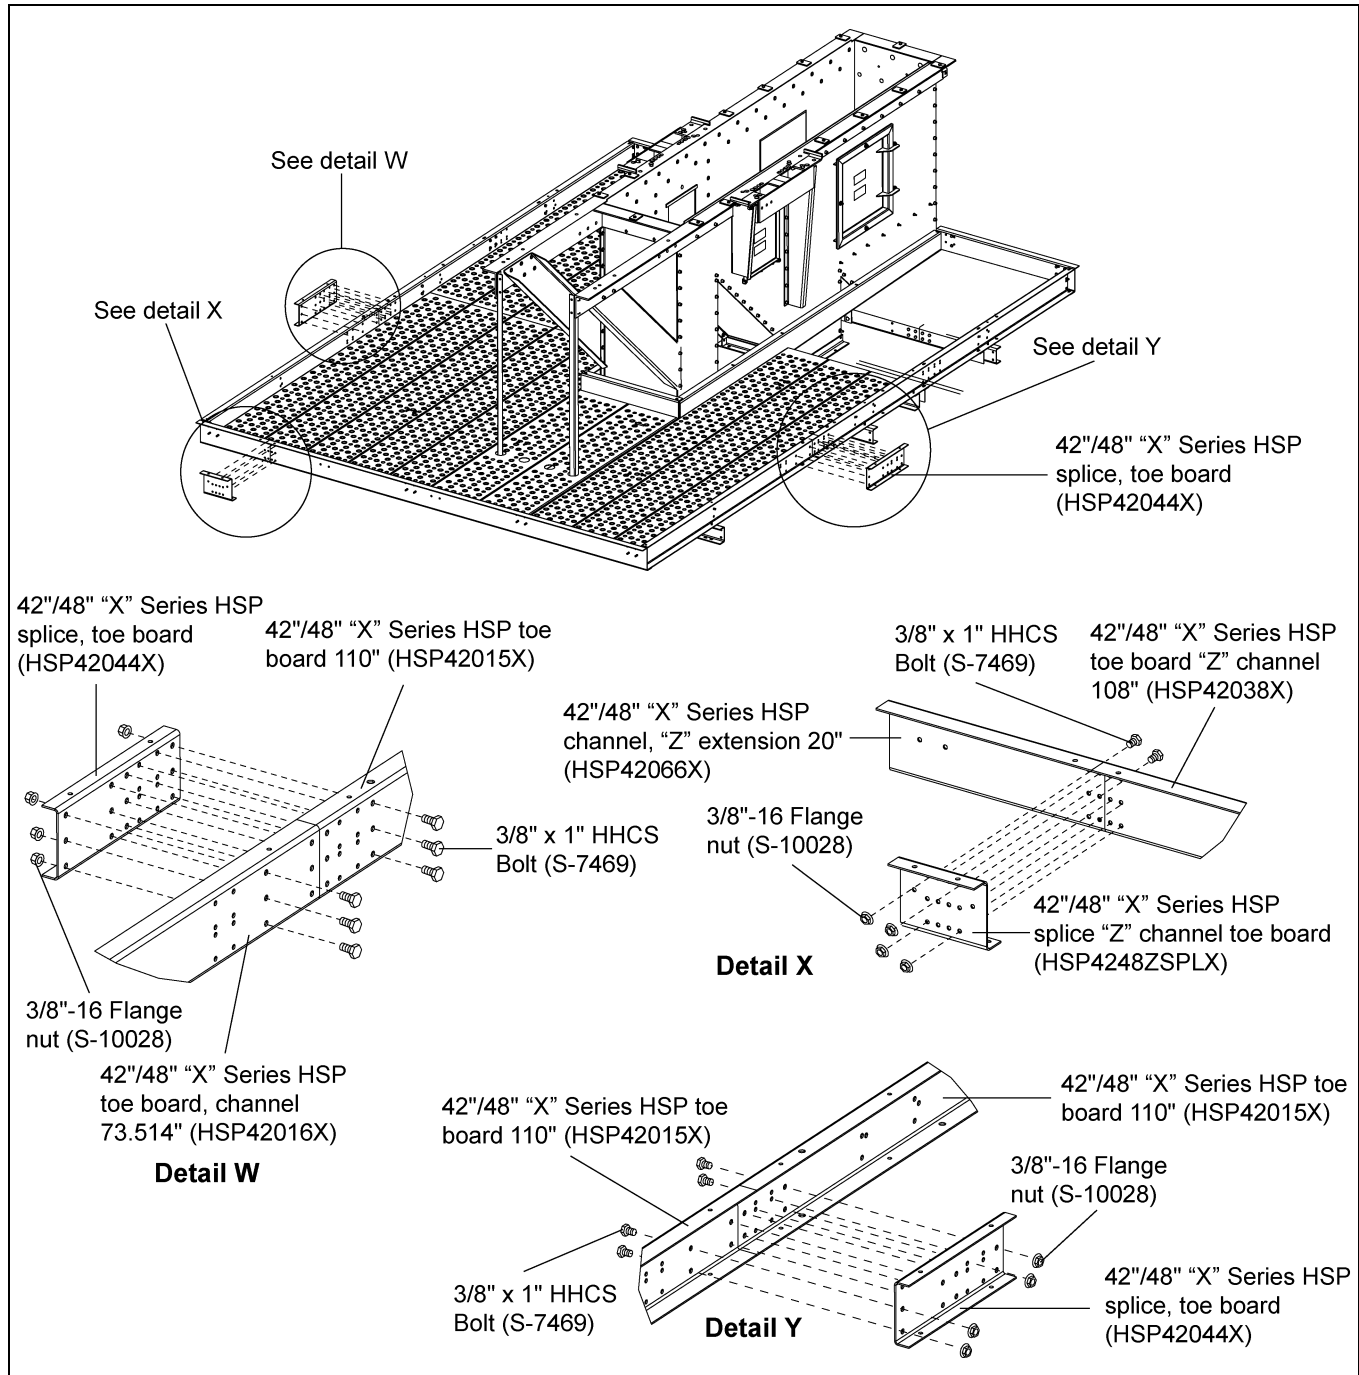

Figure 8L
2. Fasten each set together using twenty (20) 3/8" x 1" HHCS bolts (S-7469) and 3/8" nuts (S-10028).
3. Place ends of "Z" toe boards (HSP42066X and HSP42038X) together and line up bolt holes with holes in "Z" splice plate (HSP4248ZSPLX). Fasten each set together using twelve (12) 3/8" x 1" HHCS bolts (S-7469) and 3/8" nuts (S-10028). (See Figure 8L.)